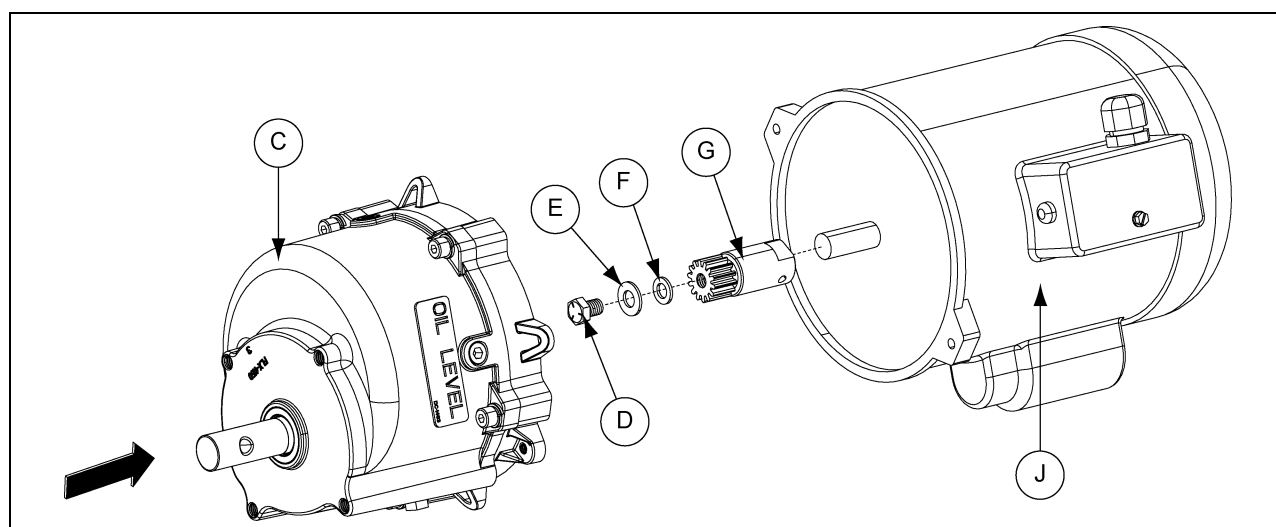

Figure 5W
- Re-install the washers (E and F) and bolt (D) to the end of the pinion shaft (G).
- NOTE:** Make sure the fiber washer is against the end of the pinion shaft (G).
- Re-install the gearbox (C) to the motor (J) using the bolt (D) and washers (E and F) previously removed. (See Figure 5W.) Tighten bolt to 50 in-lbs.